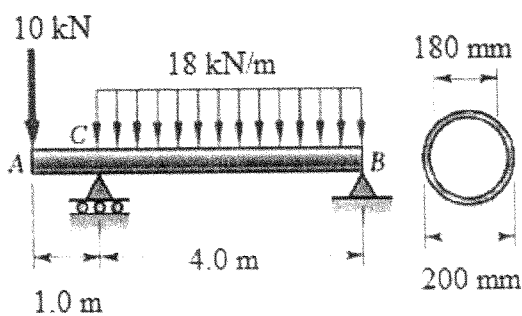

Fig. 2
2. Draw the shear and bending-moment diagrams for the beam and loading shown in Fig. 2 and determine the maximum normal stress due to bending. (15%)